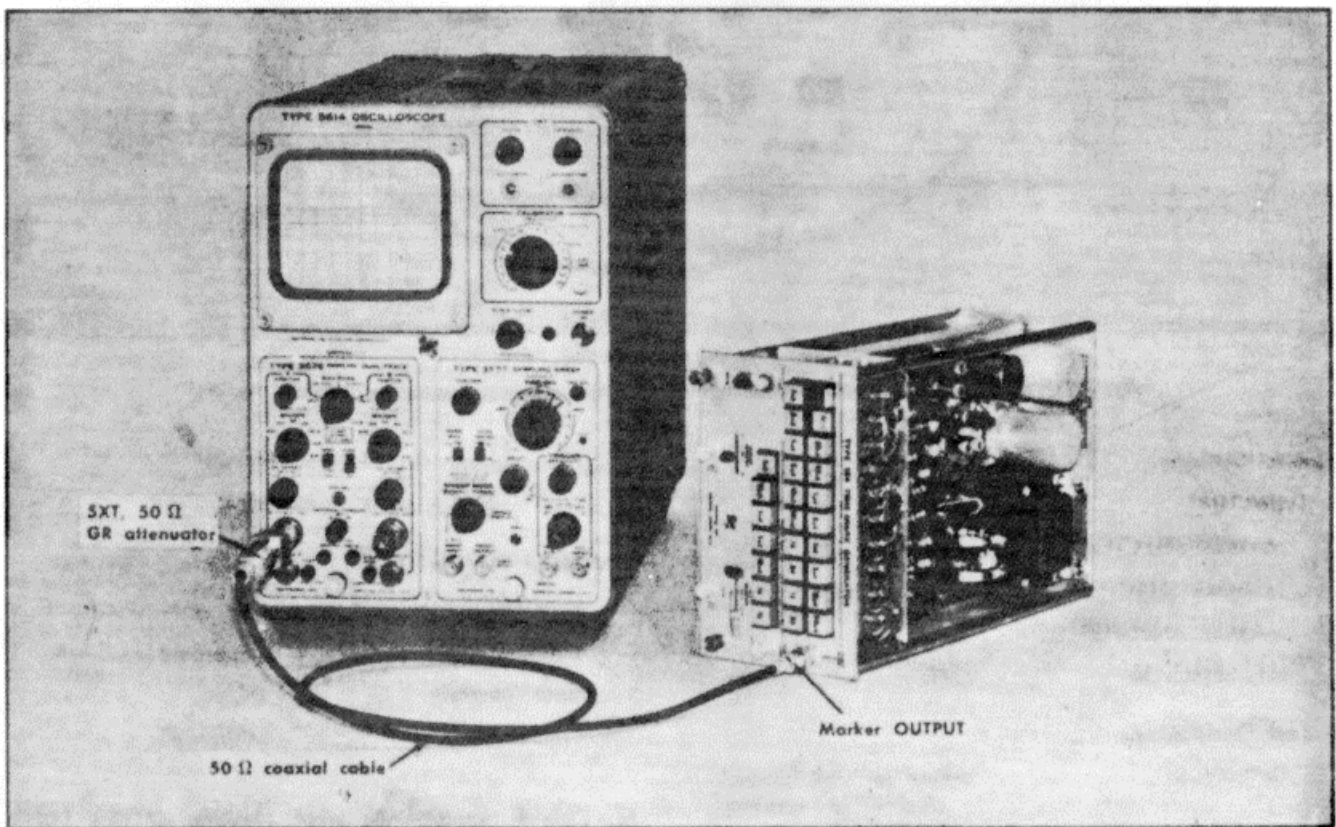

Fig. 6-17. Test equipment setup to check and adjust 10, 20 and 50 ns sine-wave markers. Step 10
10. Check and Adjust Sine-wave Markers: (1) 10, 20, 50nS and .1 μ S
- a. Test equipment setup is shown in Fig. 6-17.